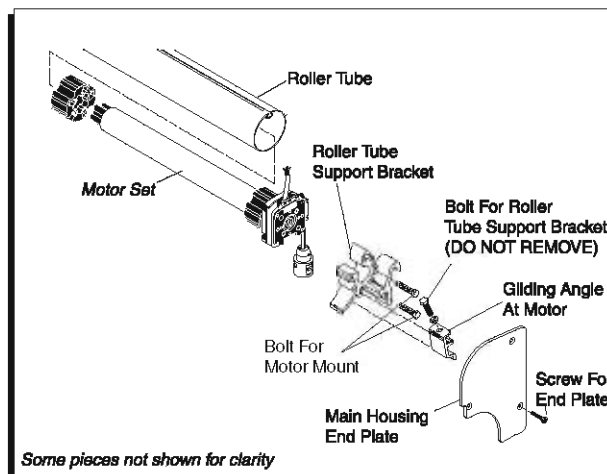

FIGURE 13
- 6) Remove both motor bolts (Figure 13,) which fasten the motor to the motor end bracket. Take note and mark the slots from which the bolt were removed.
- 8) Enter into the vehicle, and locate the termination point of the motor cord. This point will be either inside junction box used for the awning switch, or will be inside the electronic box. Either can probably be found inside of an upper cabinet. The motor cord ca be identified as the WHITE cord bearing (4) wires. Take note of the point's from which each motor wire disconnects. See also wiring diagram. Disconnect complete motor cord.
- 10) Carefully pull old motor out of awning roller tube. (Figure 13) Pull motor cord out of hole in back of awning casing, and disconnect motor cord form the 'pig tail'.
- 1) remove the right hand/front awning end plate and lead rail end plate by removing the (5) Phillips screws, which secure them to the awning casing.
- 2) Place one person in front of the rear portion of the awning. Place a second person in front of the front portion of the awning. The third person will perform the following: Remove both motor bolts which fasten the motor to the motor end bracket (Figure 13). Take note and mark the slots from which the bolts were removed. The awning will now begin to extend. The first and second persons should allow the awning to extend about 3 ft. At this point, each arm must be taped. Or strapped, about 1 ft. in from the 'elbow', such that the arms are locked into their position. These arms must be securely fixed against their own spring tension, such that the awning is prevented from opening further.
- 1) With the new motor in hand, align the notch in the black drive-disk at the far end of motor with the indentation in the awning roller tube. Slide motor all the way in. likewise, turn the black disk at the front of the motor such that its notch also lines up with the indentation in the roller tube. (See Figure 13.)
- 6) Adjust the roller tube/ motor assembly such that the threaded holes in the metal bracket of the motor line up with the (2) marked hole locations of the motor end bracket.